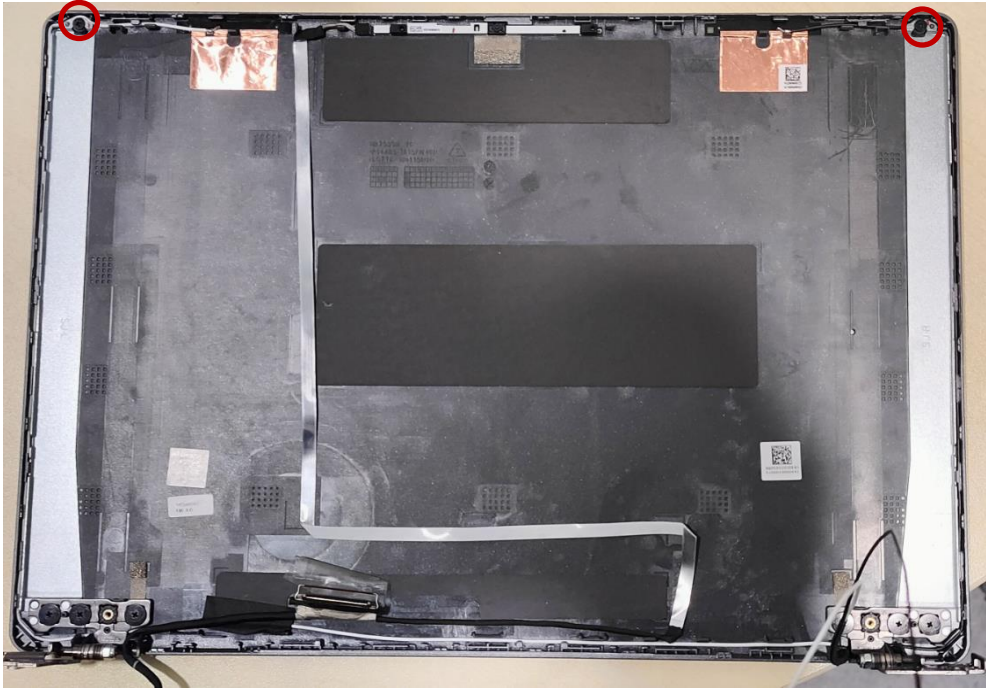

Figure 3-56 Replacing the LCD Hinges
2. Insert two (2) screws to secure the hinge BKT in place as shown in Figure 3-56.